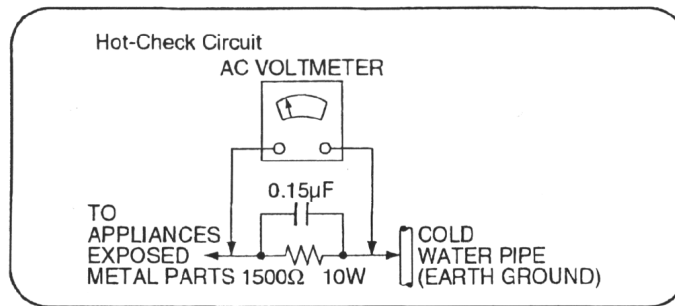

Fig. 1
3.1.2. LEAKAGE CURRENT HOT CHECK (See Figure 1.)
2. Connect a 1.5kΩ, 10 watts resistor, in parallel with a 0.15μF capacitor, between each exposed metallic part on the set and a good earth ground such as a water pipe, as shown in Figure 1.